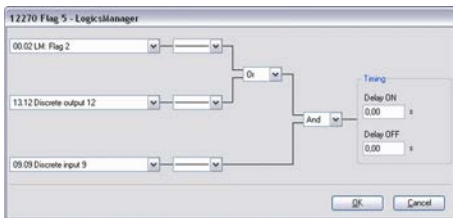

Fig. 174: LogicsManager function "Flag 5"
6. ➤ Configure the LogicsManager function "Flag 5" as shown in ( Fig. 174).